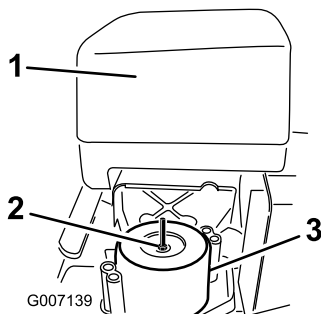

Figure 50
5. Remove the wingnut from the air filters and remove the filters (Figure 50).
2. Place the filter assembly onto the air cleaner base and secure it with a wingnut (Figure 50).